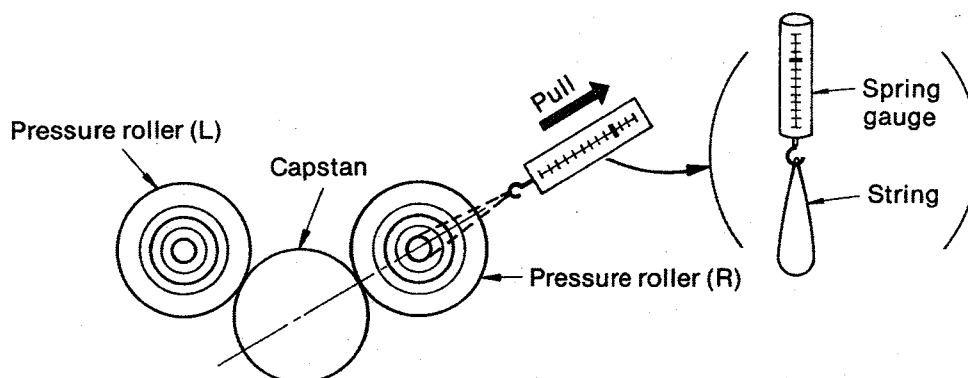

Fig. 5
- (1) Place unit in playback mode.
- (2) As shown in figure 5, pull with spring gauge.
- (3) Measure tension at moment when pressure rollers move away from capstan.
- (4) If tension is not within standard value, make readjustment as described in item [D].